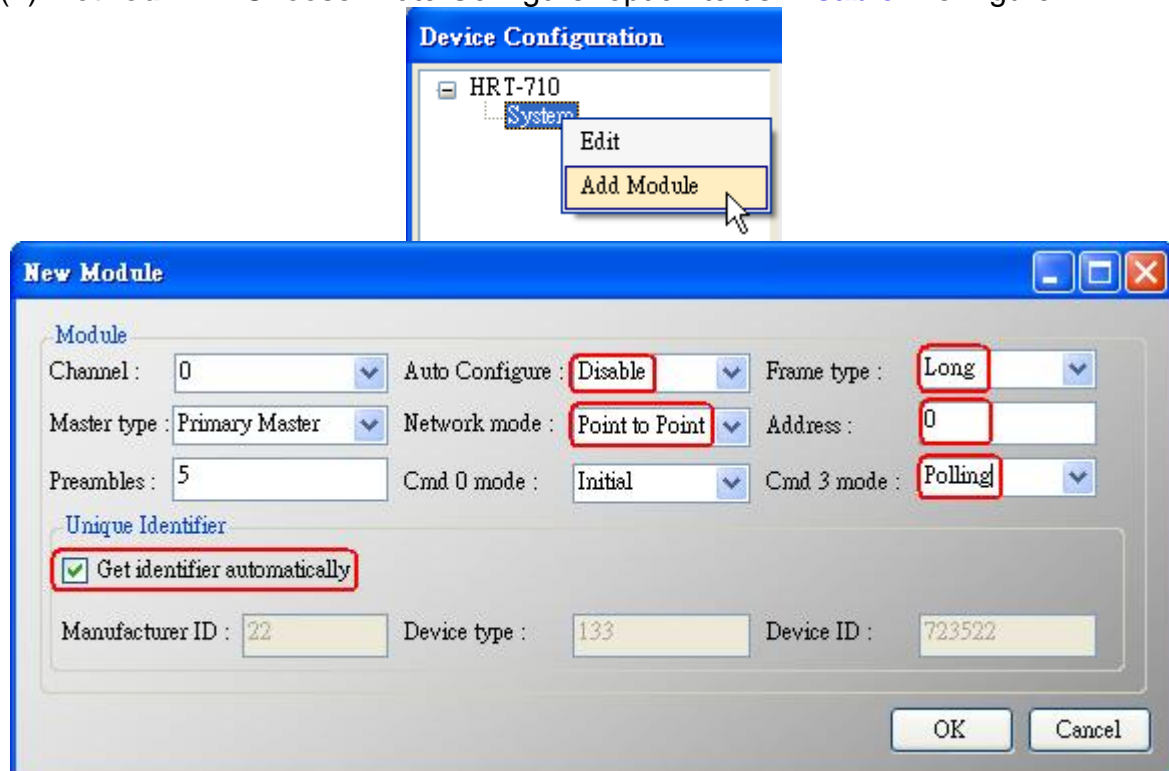

Figure 1-4 Add new HART device setting (Auto Config : Disable)
(2) **Method 2** => Choose “Auto Configure” option to be **Disable** like Figure 1-4.